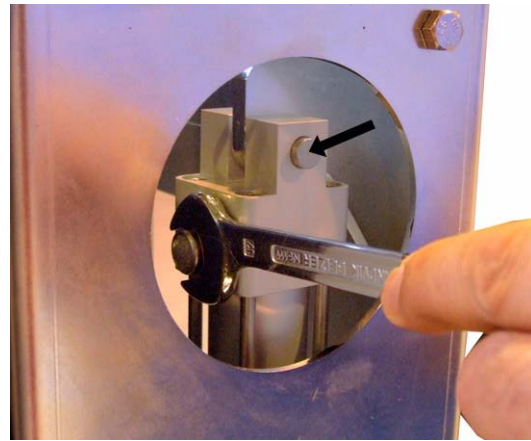

Figure 42: Replace the filter with a plug to prevent oil leakages.
8. Pull the shaft, shown with an arrow in figure 42, towards the can table and remove the top of the pump from the can table.
4. Remove the filter from top of the pump, see figure 42 on page 21.